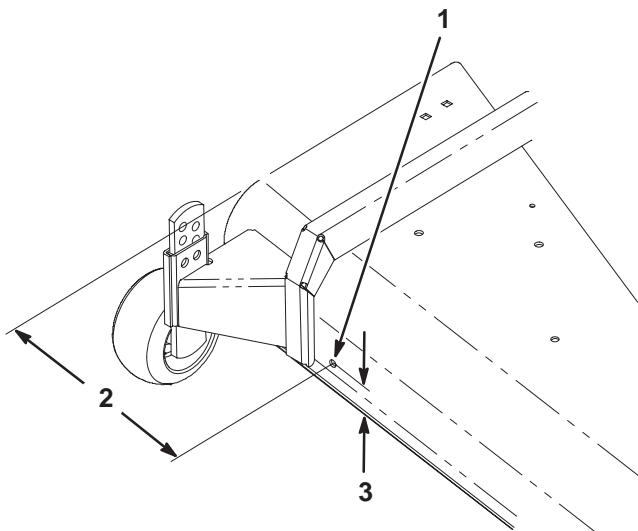

Figure 3
2. Mark and drill (6) 11/32" (9 mm) holes	4. Discharge Opening Side
6. Mark the location of the lower deflector hole in the front of the mower deck and drill one (1) 11/32" (9 mm) hole (Fig. 3).